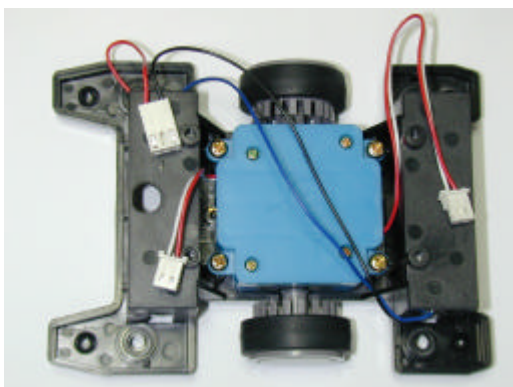

Fig 2.19
(33) Insert the ULN2803 in the U4 18pin socket.
(34) Insert the two LB1630's in the U1 and U3 8pin sockets.
(35) Attach the CPU board to the 2×8 female connectors.
**(36)~(37) Refer to Fig 2.19**